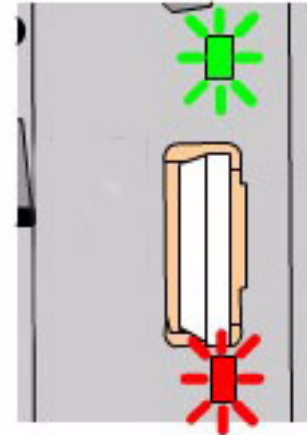

Figure 1 Inserting SIM Card
2. When the SIM is inserted, the status will be indicated by an LED display as shown in Figure 1 . The LEDs are located on the SBC PWB and are visible through small square holes in the frame above (**Green**) and below (**Red**) the SIM socket. The following list describes the LED display status: